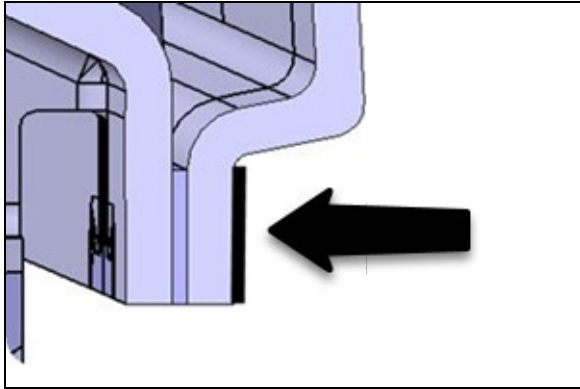

FIGURE 58
4. Apply a 1/8" (3 mm) bead of black Simson 70-03 sealant on the fiber panel as shown (Figure 58).